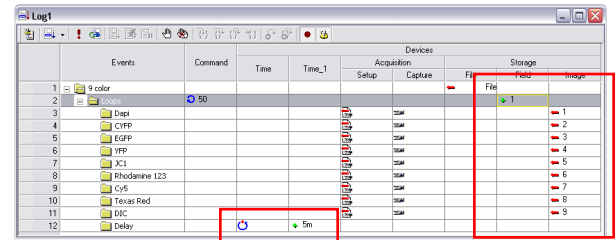
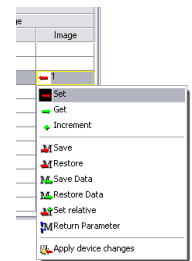
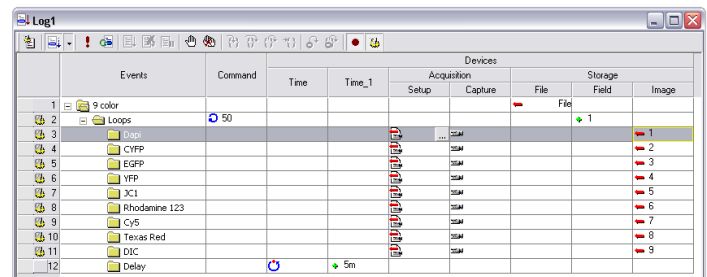

fig.8
fig.9
fig.10
6. Add time delay (**fig.8**). Under the **Time** column, double click on the cell across the delay folder and enter the time delay, for example **5m** (5 minutes). Note: Time starts counting down from the beginning of the first image. To start counting down from the last image, **Reset** the time then add a time delay. Right click on the time delay and select **Reset** from the drop-down menu. Then add a second Time column from the device resources window and set the time interval as we did before to 5m as shown in figure 9.
7. Name data file (**fig.8**). Under the **File** column, double click on the cell across the first folder, **Nine Color**. Click on the three dots icon (...) and name the cxd file. Under the **Field** column double click on the first cell, a **+1** icon appears. Click on the **+1** and select **Set** and enter **0** (**fig.10**). In the **Field** column (**fig.9**) double click on the cell across the Fluorescence and DIC folder, a **+1** appears which indicates the field will be incremented by one frame. Right click on the **Collection** and **Image** column and select **Delete** since we are not using them in this example.